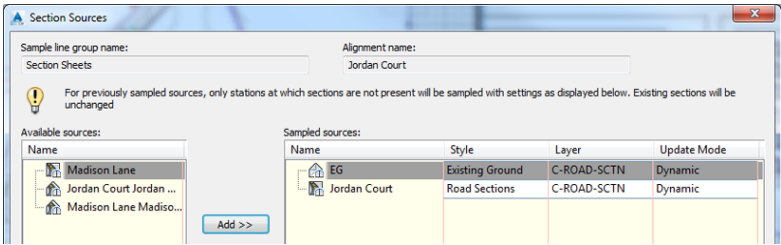

FIGURE 10.10 Sampling additional sources using the Section Sources dialog box
- 5. Verify that the Section Sources dialog box looks like Figure 10.10, and then click **OK**.